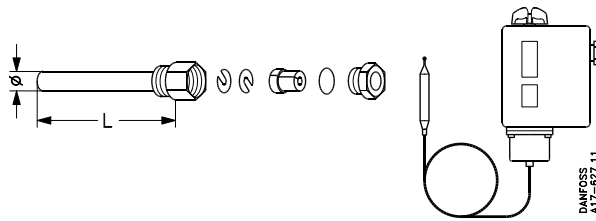

Fig. 3
RT units can be fitted in any position. Use the mounting holes (25). With outdoor installation, the unit should be protected against rainfall. The bulb should be fixed to the wall by means of a bulb holding bracket (26). If it is desired to install the bulb in a water or brine tank, this can be done by using either a capillary stuffing box (31) or a bulb pocket (30). If bulb pocket is to be used, for correct bulb fitting see fig. 3.